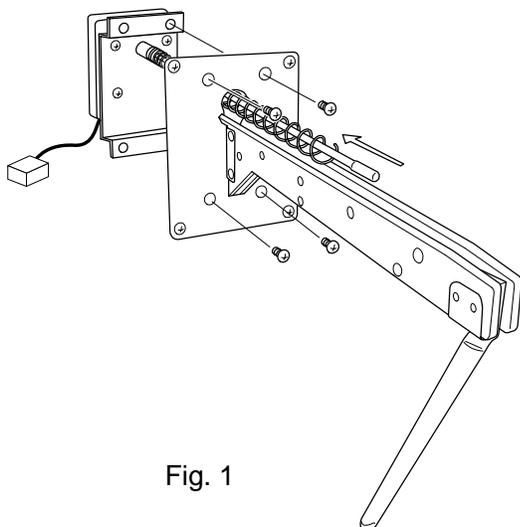

Fig. 1
- 1) Unscrew 4 position of the Phillips screws. (See Fig.1)